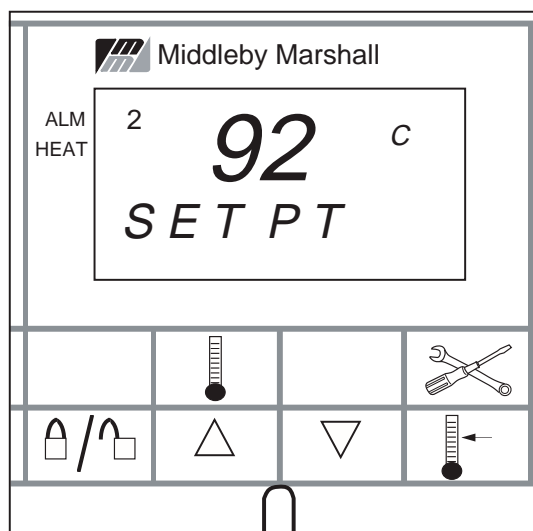

Figure 3-9
- a. ALM - The ALM window will display either a "2" or will be blank. See Figure 3-9.